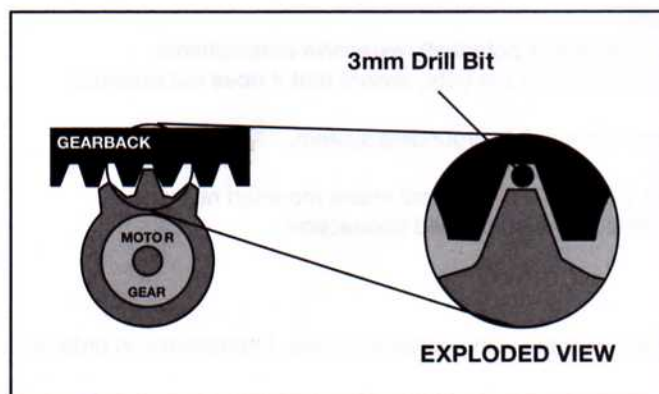
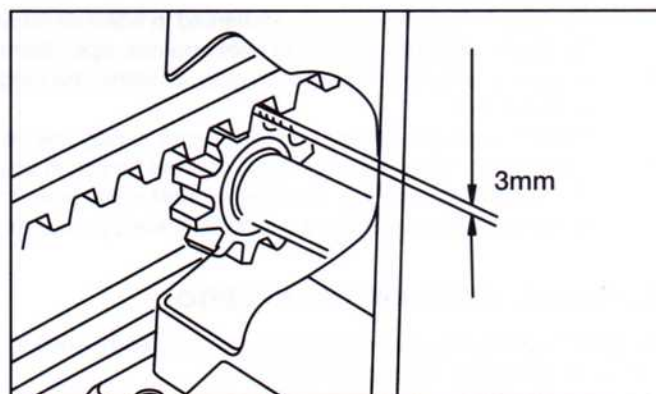

Figure 9a
Figure 9b
11. Open and close the gate several times and make sure the rack is aligned with the pinion. Check that the spacing of 1mm - 3mm has been respected along the entire length between the pinion and the rack. An example of a good measure for keeping the spacing at 1mm - 3mm is by using the diameter of a 3mm drill bit between rack and pinion. See figure 9a and figure 9b